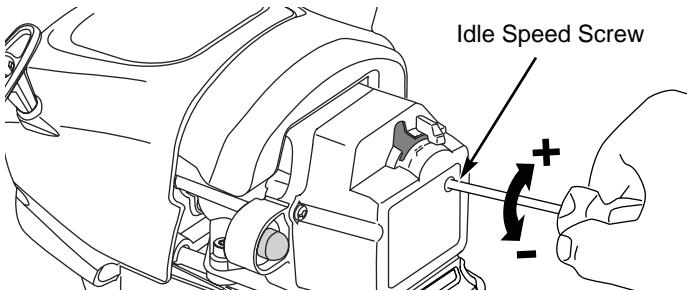

Fig. 30
The idle speed of the engine is adjustable through the air filter/muffler cover (Fig. 30).
2. Release the throttle trigger and let the engine idle. If the engine stops, insert a small phillips or flat blade screwdriver into the hole in the air filter/muffler cover (Fig. 30). Turn the idle speed screw in, clockwise , 1/8 of a turn at a time (as needed) until the engine idles smoothly.